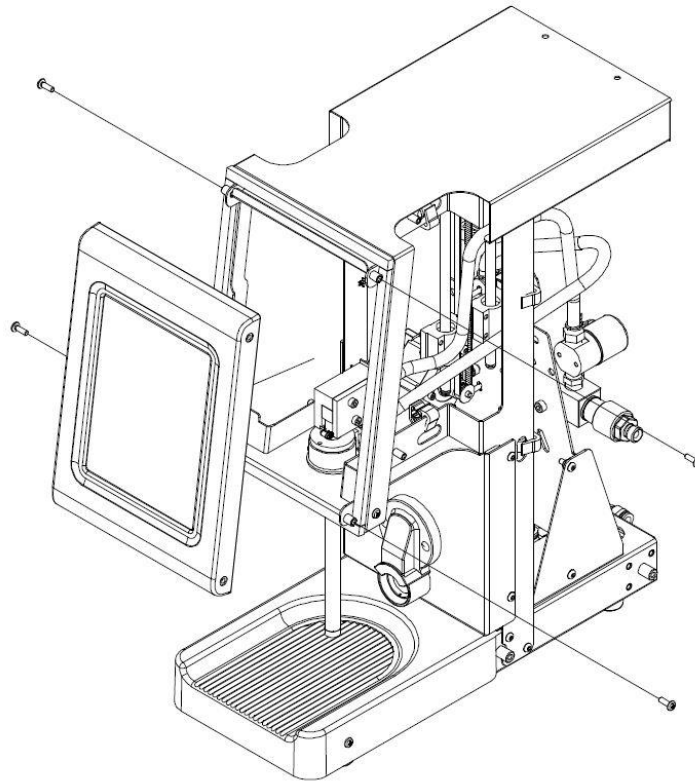

Figure 36: Display Assembly Screw Fixings
4. Remove the 4 x M4 screws at sides of plastic display surround as shown in Figure 36 below.